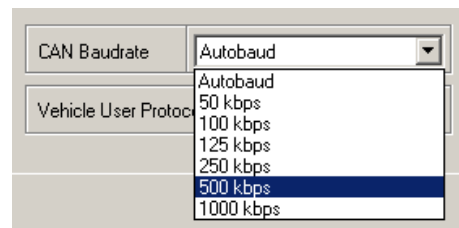

Figure 61 CAN baud rate configuration window
*CAN baud rate configuration:* speed depends on operating CAN network speed, if that speed is unknown “Autobaud” mode is recommended (Figure 61 CAN baud rate configuration window);